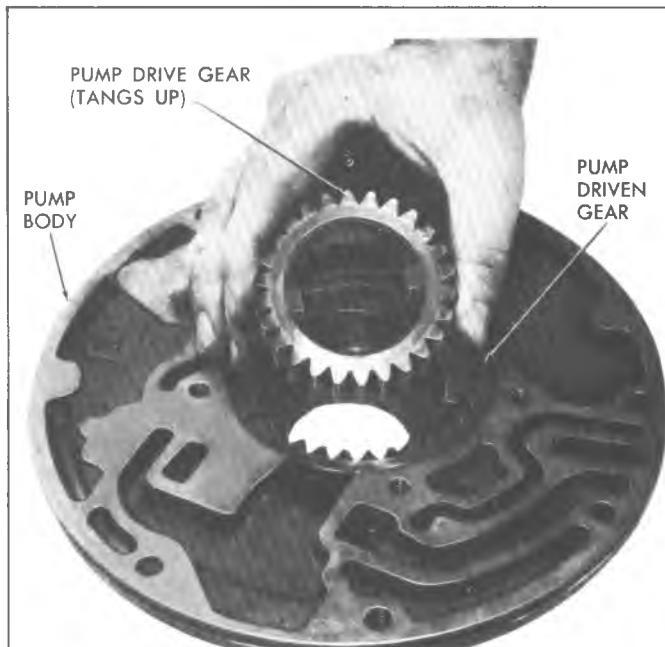

Fig. 63T--Installing Pump Drive Gear
11. Mark drive and driven gears for reassembly in same position and remove from the pump body. See figure 63T.
- marks up into pump body (fig. 63T) drive gear tangs up.